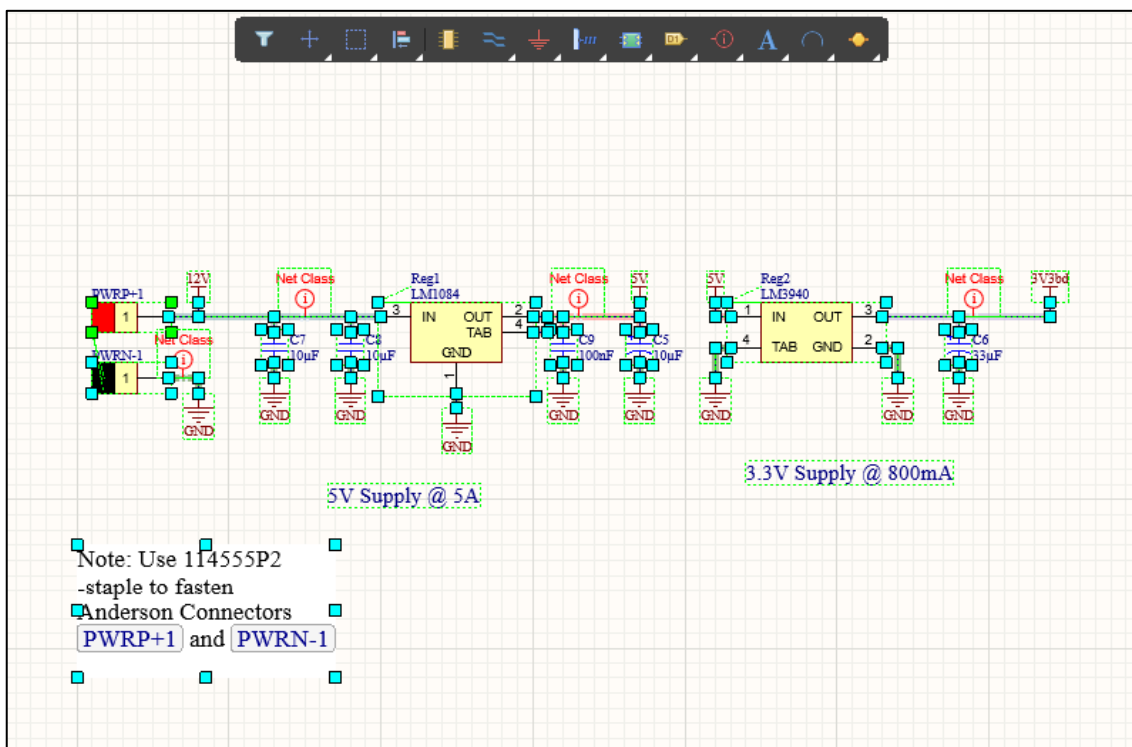

Figure 5. Selecting the Power Supply
19. Select all objects in the schematics, as shown in Figure 5.